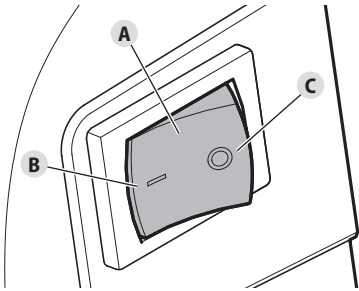

Fig. 11
NOTE: There is no need to turn the unit on. The On/Off switch (Fig. 11-A) is in the **On (I)** position (Fig. 11-B) at all times.
2. Press and hold the On/Off switch (Fig. 11-A) in the **Off (O)** position (Fig. 11-C) until the engine comes to a complete stop.